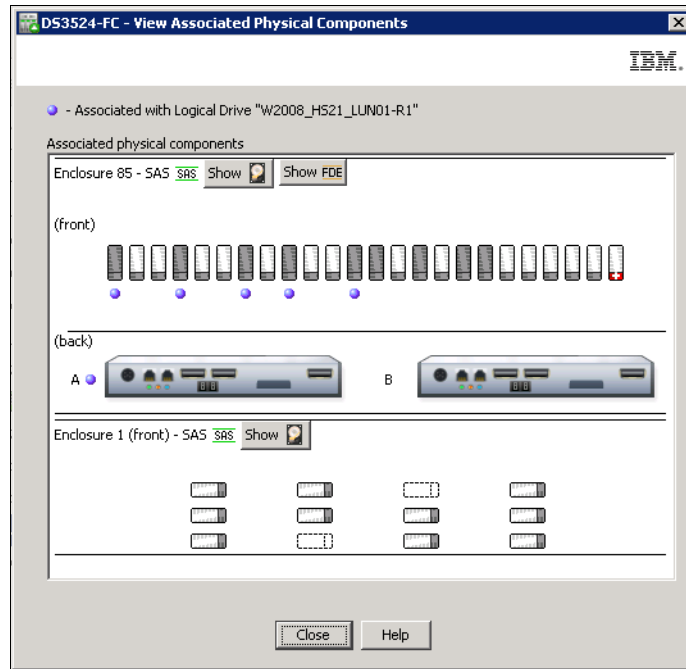
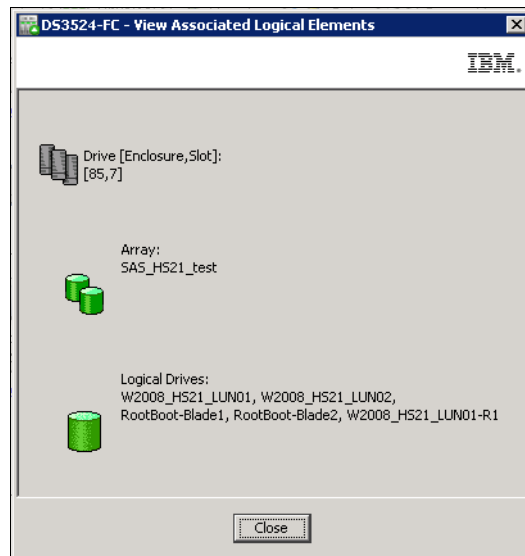

Figure 8-28 Associated Physical Components
Figure 8-29 Associated Logical Elements
If you select logical object in Logical tab or Mapping tab, clicking **View** → **Associated Physical Components** opens the window shown in Figure 8-28. Associated physical disk drives and their owning controller are marked by blue bullets.
Similarly, if you select a disk drive in the Physical tab, you can get related logical elements (Figure 8-29) if you click **View** → **Associated Logical Elements**.
**Note:** The same windows can be opened directly in Logical, Physical, and Mappings tabs. Right-click the object and select **View Associated Component**. The same windows like in Figure 8-28 on page 206 or Figure 8-29 display.